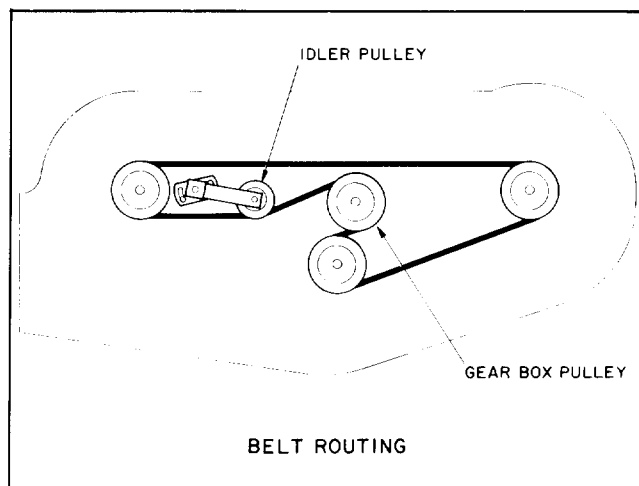

Figure 30
5. Install new belt around gear box pulley, spindle pulleys and idler pulley (Fig. 30).